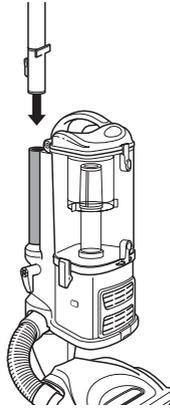

Fig. 8
- 3 Insert the wand into the tube on the back of the canister, pressing until it clicks securely into place. **(Fig. 8)**